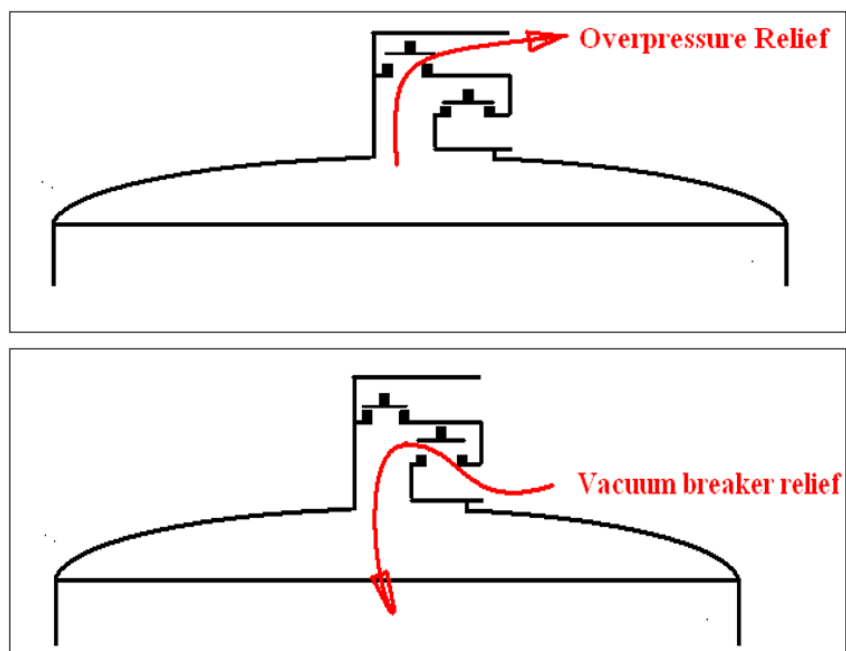
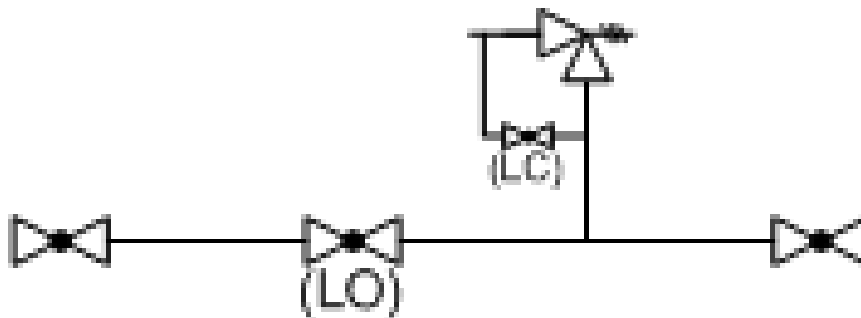

Figure 30: Conceptual graphic of overpressure and under-pressure relief valve.
Figure 31: Graphic of a section of pipe (left) not needing a TESV due to the valve in the center of the graphic having a lock open (LO) designation.
Pipes and vessels need to be protected from over and under-pressure conditions where such conditions would cause the pipe or vessel to fail. For example, a large vessel such as an LNG storage tank experiencing a vacuum, implodes like an empty soda can would crush when squeezed in your hand. Also, a pipe or vessel would leak or rupture if it were to be over pressurized the same way a bicycle tire would if it were to be pressurized to the point of failure. A conceptual over and under-pressure relief is shown in Figure 30 below.
- Weight loaded relief valves. These are the types shown in Figure 30 For such valves the operator needs to ensure that the weight is properly placed on the sealing plate and that the plate is free to move to relieve the pressure when needed. Special care must be taken if such weighted devices are used in underground vaults. If the vault were to flood the buoyancy of the weights and or the weight of water on the plate device will change the relieving pressure of the device.
6.10.2. Lock open (LO) and Lock closed valves (LC)
To avoid requiring a very large quantity of relief valves in an LNG plant, the need for a TESV can be avoided by a procedure that locks a valve open. Such valves require a special procedure to ever close that valve. In the conceptual graphic of Figure 31 below, a relief valve (TESV) is shown between the two line-valves on the right. This same graphic shows no relief valve between the two line-valves on the left of the graphic. The reason no relief valve is required between the two line-valves on the left is because the middle valve is marked as “locked open” (LO). A LO valve, from a design and operational perspective is considered a straight piece of pipe, as the valve is always in the locked open position, unless a special procedure is applied to close that valve with precautions to avoid trapping LNG between two valves. Thus, for this piping configuration, the single relief valve protects the entire pipe between the far left and far right line valves.
Also note that valves may be marked as locked closed (LC) valves. Such a valve is shown in Figure 31 below. LC valves also require a special procedure if they need to be opened.